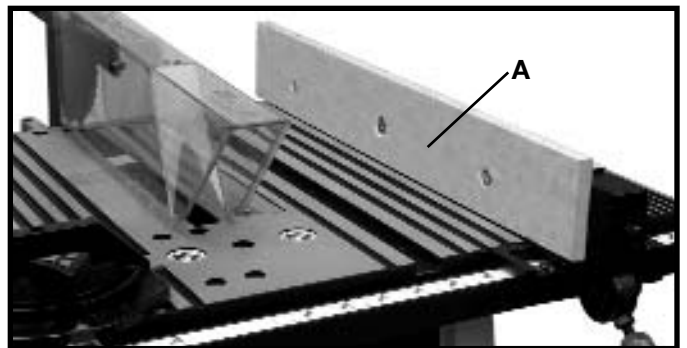

Fig. 43A
When performing special cutting operations – and that operation may cause the cutting implement to contact the fence – it is necessary to add a wood facing (A) Fig. 43A, to one side of the rip fence as shown. The wood facing is attached to the fence with wood screws through holes drilled in the fence. 3/4-inch stock is suitable for most work, although an occasional job may require one-inch facing.